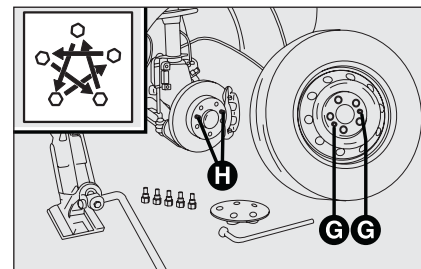

fig. 9
- ☐ fit the spare wheel making the holes **G-fig. 9** coincide with the respective pins **H**. Make sure the contact surfaces between spare wheel and hub are clean so that the fastening bolts will not come loose;
- ☐ fasten bolts completely, working in a criss-cross fashion as shown in **fig. 9**.